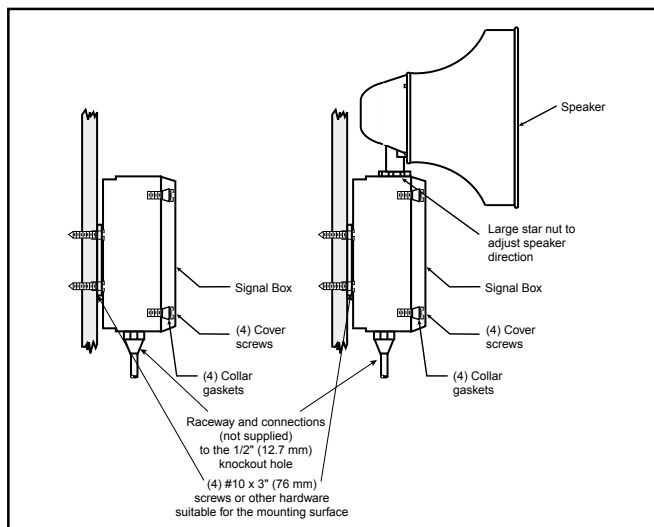

Figure 3. Adaptatone Mounting
1. Mount Adaptatone as shown in Figure 3.
- a. **Flat Surface Mounting.** Secure unit to mounting surface using the (4) mounting holes in the mounting plate on the rear of the box. Use the #10 x 3" (76 mm) wood screws (furnished loose) or other hardware (not supplied) suitable for the mounting surface.
- b. **Rigid Pipe Mounting.** Loosen the (4) cover screws from the signal box and lift off signal box cover.
- 7. To adjust speaker direction, loosen large star nut (Figure 3) and turn speaker to the approximate desired position. Retighten nut and turn speaker slightly clockwise until locked into place.